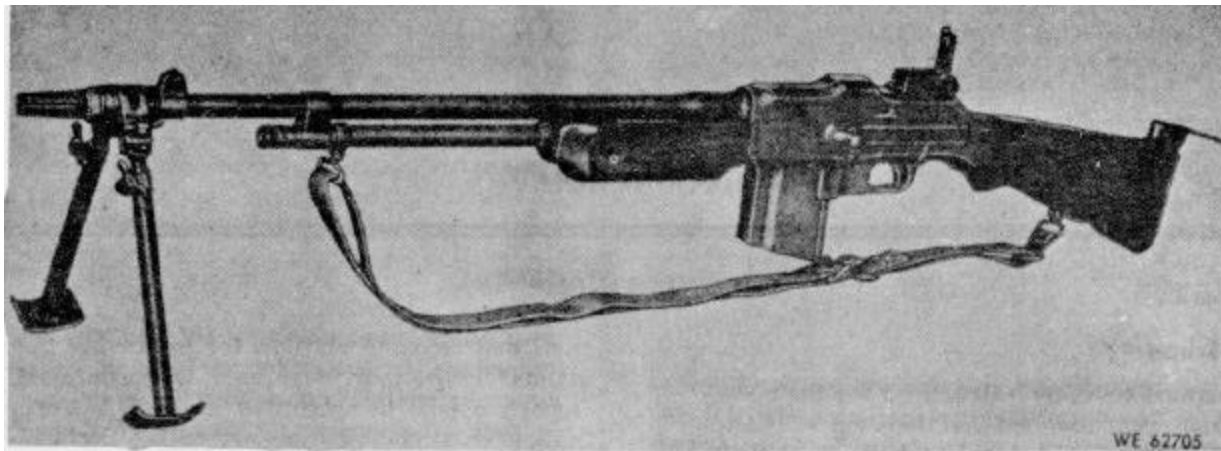

Figure 1-1. Caliber .30 Browning Automatic Rifle M1918A2 - left front view.
*a. General.* The Caliber .80 Browning Automatic Rifle M1918A2 (fig. 1-1) is a fully automatic, air-cooled, gas-operated, magazine fed, shoulder-type weapon, designed primarily for use with a bipod. The rifle can be easily disassembled into groups and assemblies. It is composed of the magazine, trigger guard assembly, bolt group, gas cylinder and fore end group, slide and piston group, butt stock, buffer, and actuator group, bipod assembly, rear sight assembly, and barrel and receiver group. The rifle contains a cyclic rate mechanism which is housed in the stock and trigger guard mechanism. This mechanism allows two rates of automatic fire, one at 550 rounds per minute (normal cyclic rate) and one at 350 rounds per minute (slow cyclic rate). A brief description of the components is as follows: One each cartridge magazine (1, fig C-1), front sight cover (6, fig C-4), carrying handle (5, fig C-5), and small arms sling (1, fig C-5) are furnished as component items with each weapon.